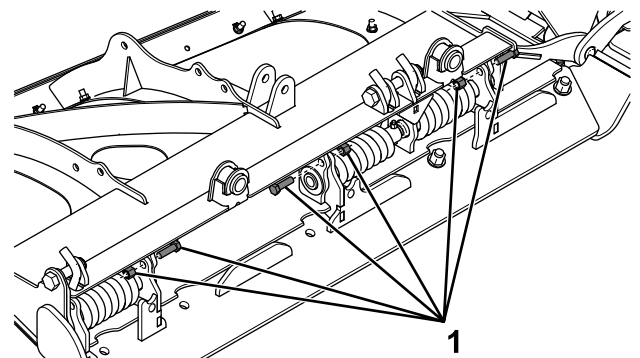

Figure 5
4. **DXT models only:** remove the 6 base angle lock-out bolts from the bottom of the left and right blades (Figure 5).